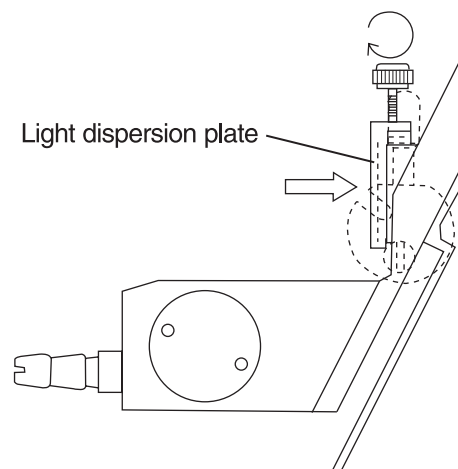

Fig. 9-7
- ② Fit the light dispersion plate of the "Measuring set for film" to the light emitting window of the DR-A1-Plus (Fig. 9-7).